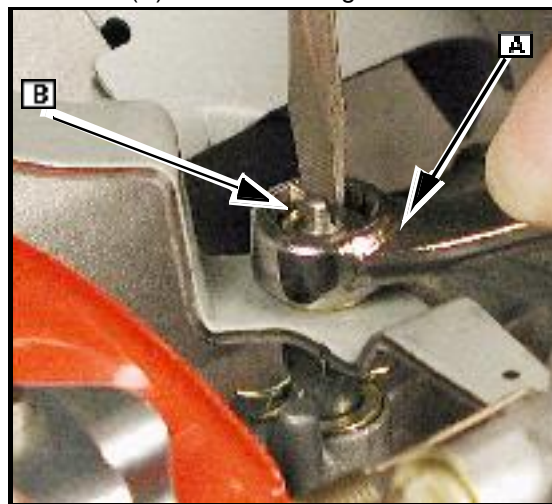

Fig. 4
2. While holding governor shaft (B), loosen nut (A) as shown in Fig. 4.
1. Slip a box-end wrench (A) on the top nut (Fig. 4).